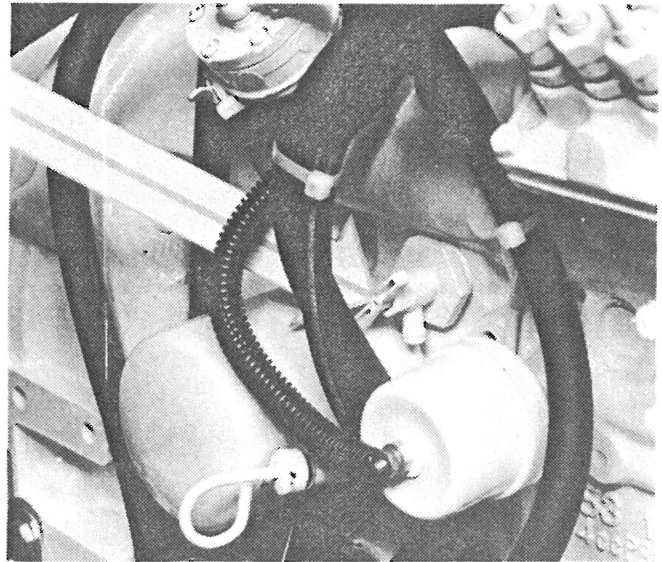

Figure 62 - Drain cock at engine block, 753
- a. Remove the expansion tank cap and open the drain cock at the engine block (and at exhaust manifold for L & M 843 and 854). See figures 62 through 66.